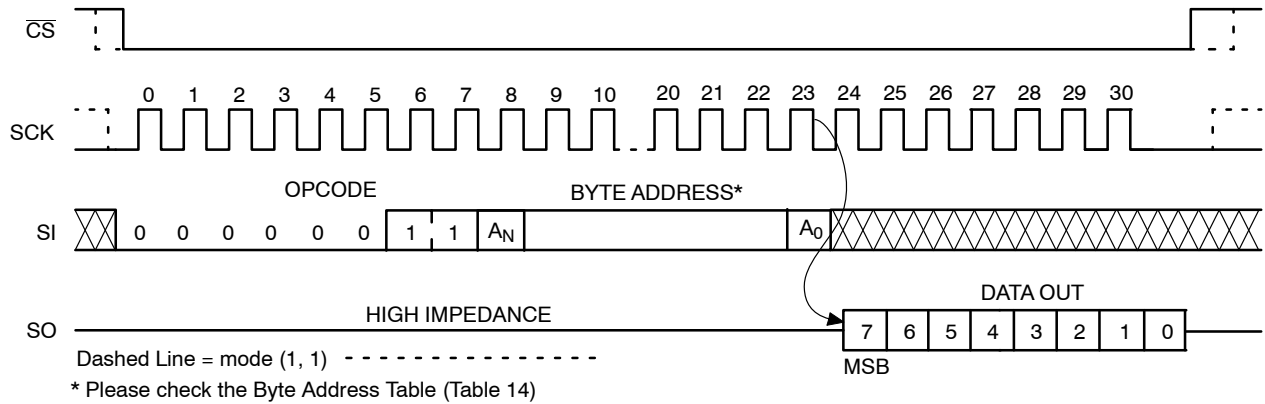

Figure 9. READ Timing
After receiving the last address bit, the CAT25128 will respond by shifting out data on the SO pin (as shown in Figure 9). Sequentially stored data can be read out by simply continuing to run the clock. The internal address pointer is automatically incremented to the next higher address as data is shifted out. After reaching the highest memory address, the address counter “rolls over” to the lowest memory address, and the read cycle can be continued indefinitely. The read operation is terminated by taking  $\overline{CS}$  high.
Reading the additional 64-byte Identification Page (IP) is achieved using the same Read command sequence as used for Read from main memory array (Figure 9). **The IPL bit from the Status Register must be set (IPL = 1) before attempting to read from the IP.** The [A5:A0] are the address significant bits that point to the data byte shifted out on the SO pin. If the CS continues to be held low, the internal